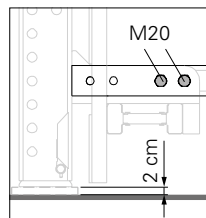

Fig. A1.13a
3. Attach crane lifting gear to the spindle connection point of the Carriage SCS 250 (2.1) or Crossbeam SCS 190 (1).
5. Fix Vertical Struts (3) to the crossbeams (2) using bolts and Nuts M20 x 130. (Fig. A1.13a or A1.14a)